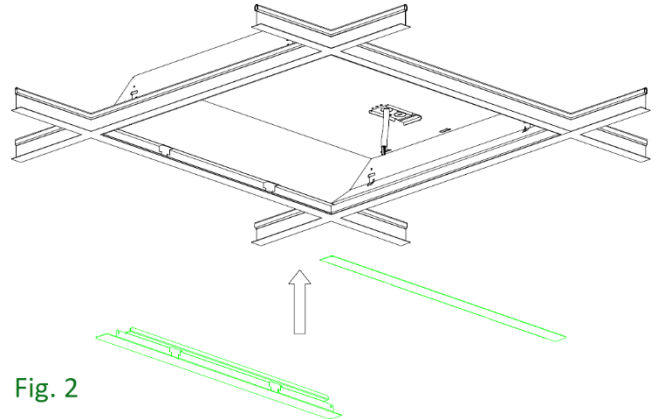

Fig. 2
- Install the bracket in the existing housing between the housing and tee-grid bar. (Fig. 2)